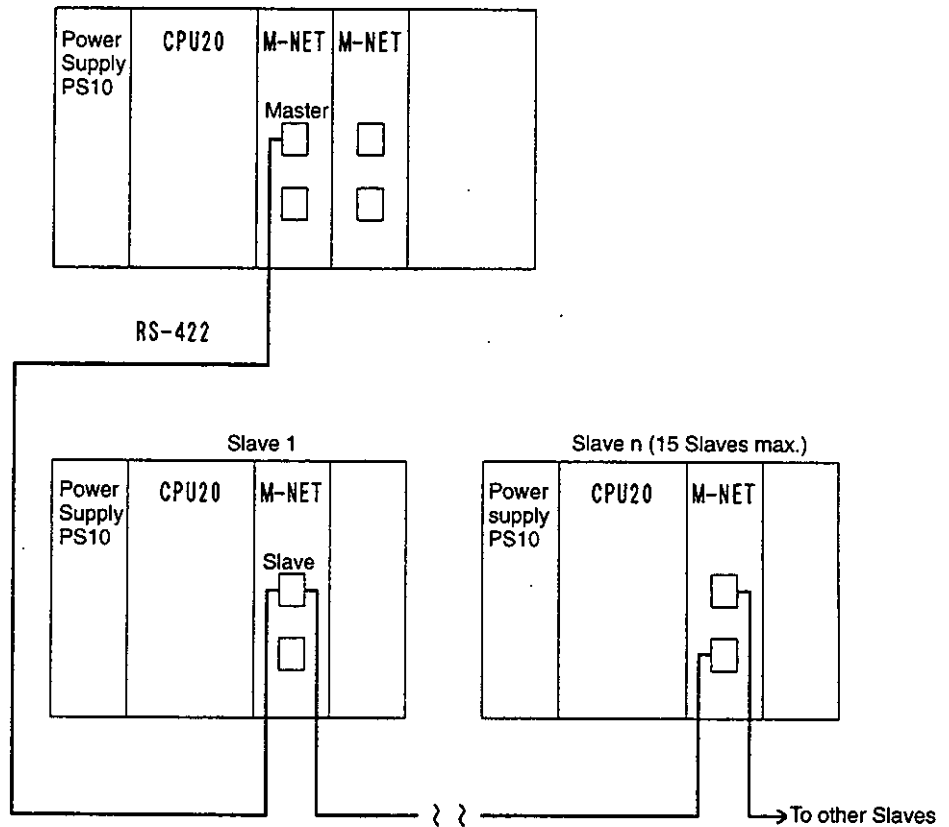

Figure 1.1 M-NET System Configuration
1) The M-NET system configuration is shown in *Figure 1.1*.